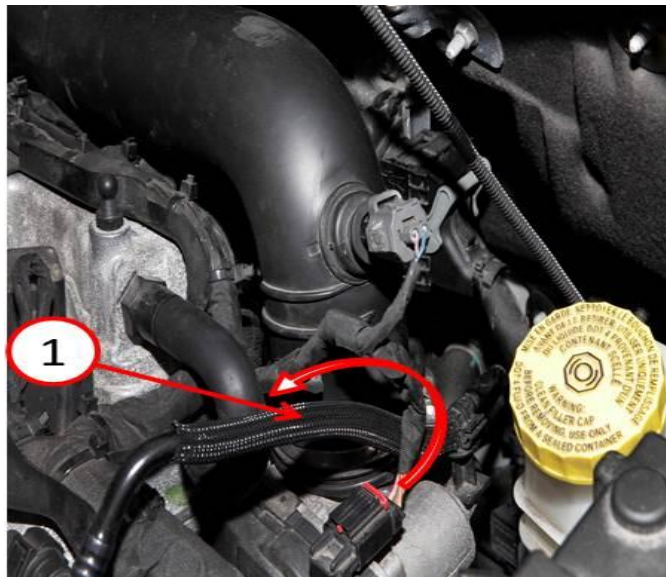

Fig. 3 Route Connectors Under Black Tube
5. Reposition both connectors so that the wires are under the black tube, see (Fig. 3).